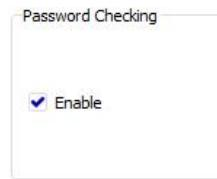

Figure 51: Password Checking
- II. Example: In figure 51, if user wants to change the repair status from 'repaired' to 'false call' for component "1:r213", user needs to select user name from the drop down list and enter password.